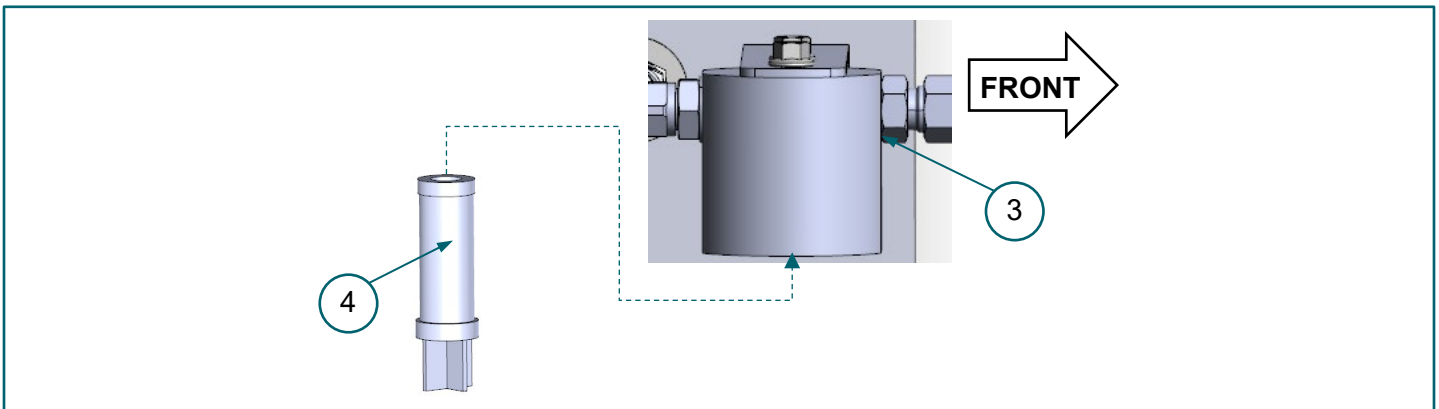

FIGURE 3–6. (3) HP fuel filter head, (4) filter element
8. Use a 55 mm wrench to install (5) retrofit HP fuel filter bowl on (3) HP fuel filter head. **FIGURE 3–7**